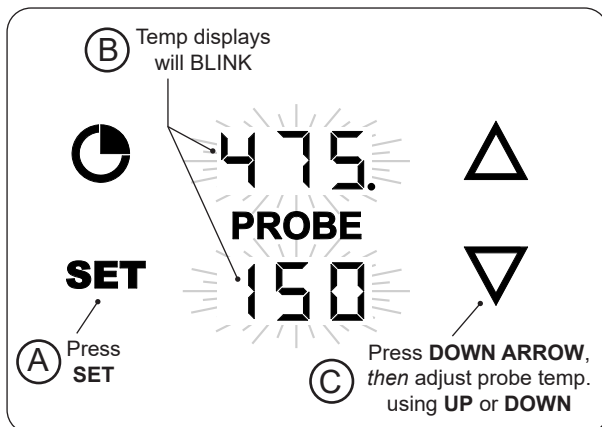

Fig. 35-2 Set probe temperature
1. With the thermometer/thermostat **on** and the meat probe plugged in, press the **SET** button once. The grilling and probe displays will blink. (While blinking, either area can be selected to enter their settings.) See Fig. 35-2, A and B.
2. Press the **DOWN ARROW** to select the probe settings, then you may use the up or down arrows to set the desired temp (Fig. 35-2, C).